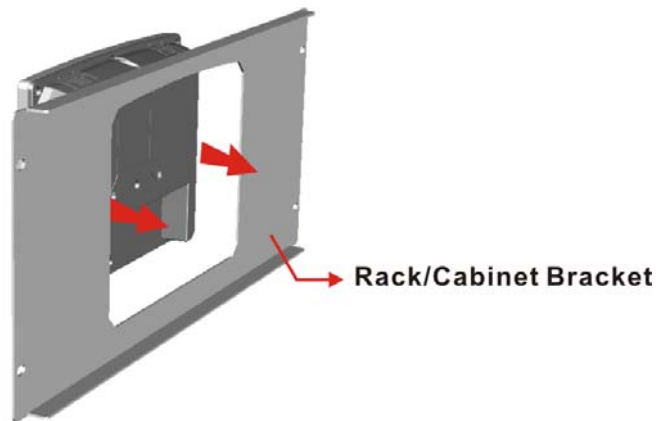

Figure 4-12: The Rack/Cabinet Bracket
- Step 1:** Slide the rear chassis of the AFL2-12A-HM65 flat bezel panel PC through the rack/cabinet bracket until the aluminum frame is flush against the front of the bracket (**Figure 4-12**).